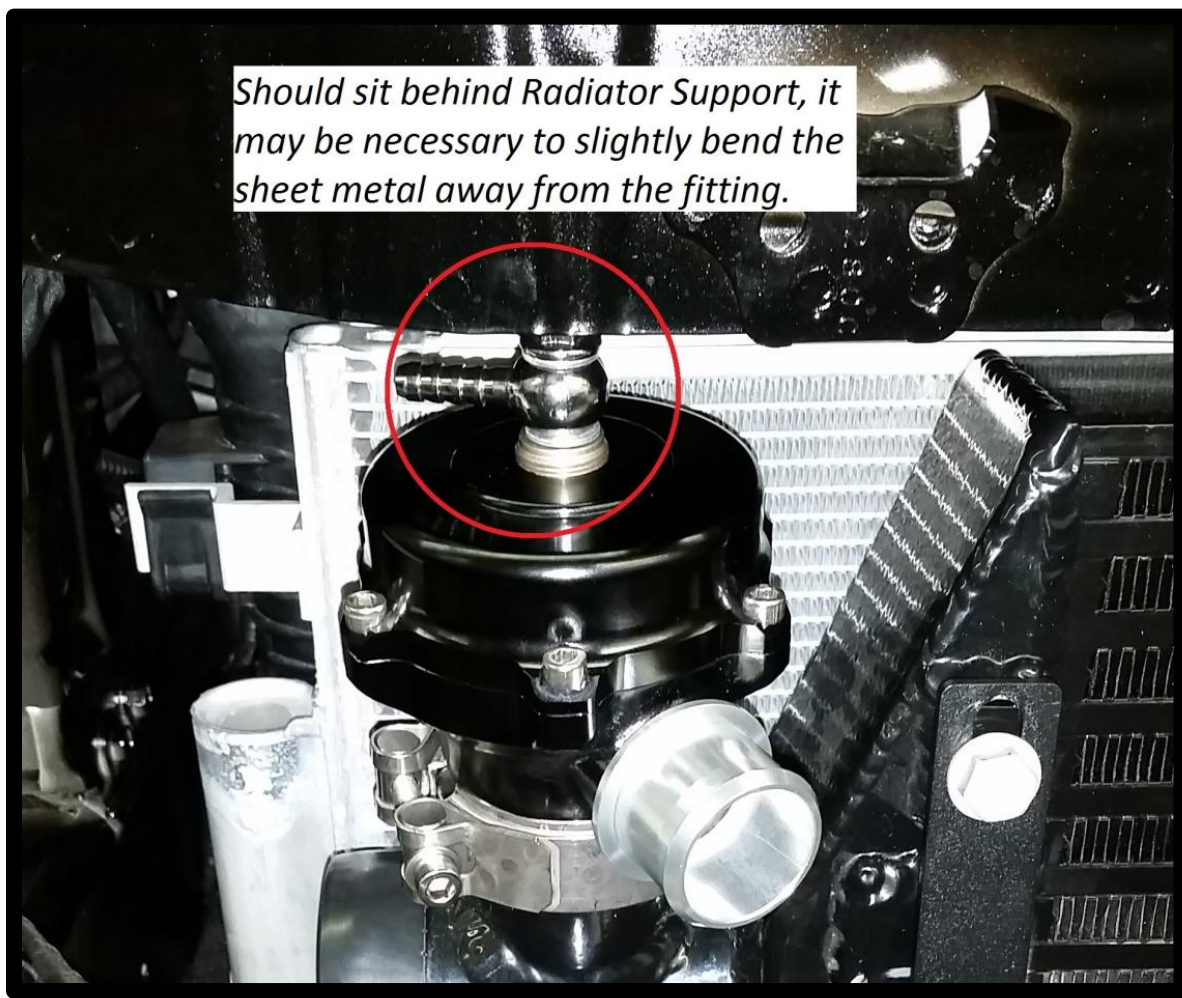

Figure 37: Installed Blow Off Valve
4. Once the intercooler brackets are tight the blow off valve needs to be installed onto the intercooler, to do this loosen the provided c-clamp almost all the way and place it on the intercooler. Preinstall the banjo bolt and barb fitting onto the BOV using two of the provided sealing washers. Position the barb fitting such that it will point towards the front of the vehicle when installed. The barb fitting was intended to sit behind the sheet metal of the radiator support and it may be necessary in some cases to slightly bend the sheet metal outwards, away from the BOV. Then install the provided o-ring onto the intercooler and install the BOV onto the intercooler making sure the o-ring stayed in place. Position the BOV approximately as shown in Figure 37. Hold the BOV in position and tighten the clamp until you cannot rotate the BOV with moderate twisting pressure. Then install the provided 1" inlet filter.